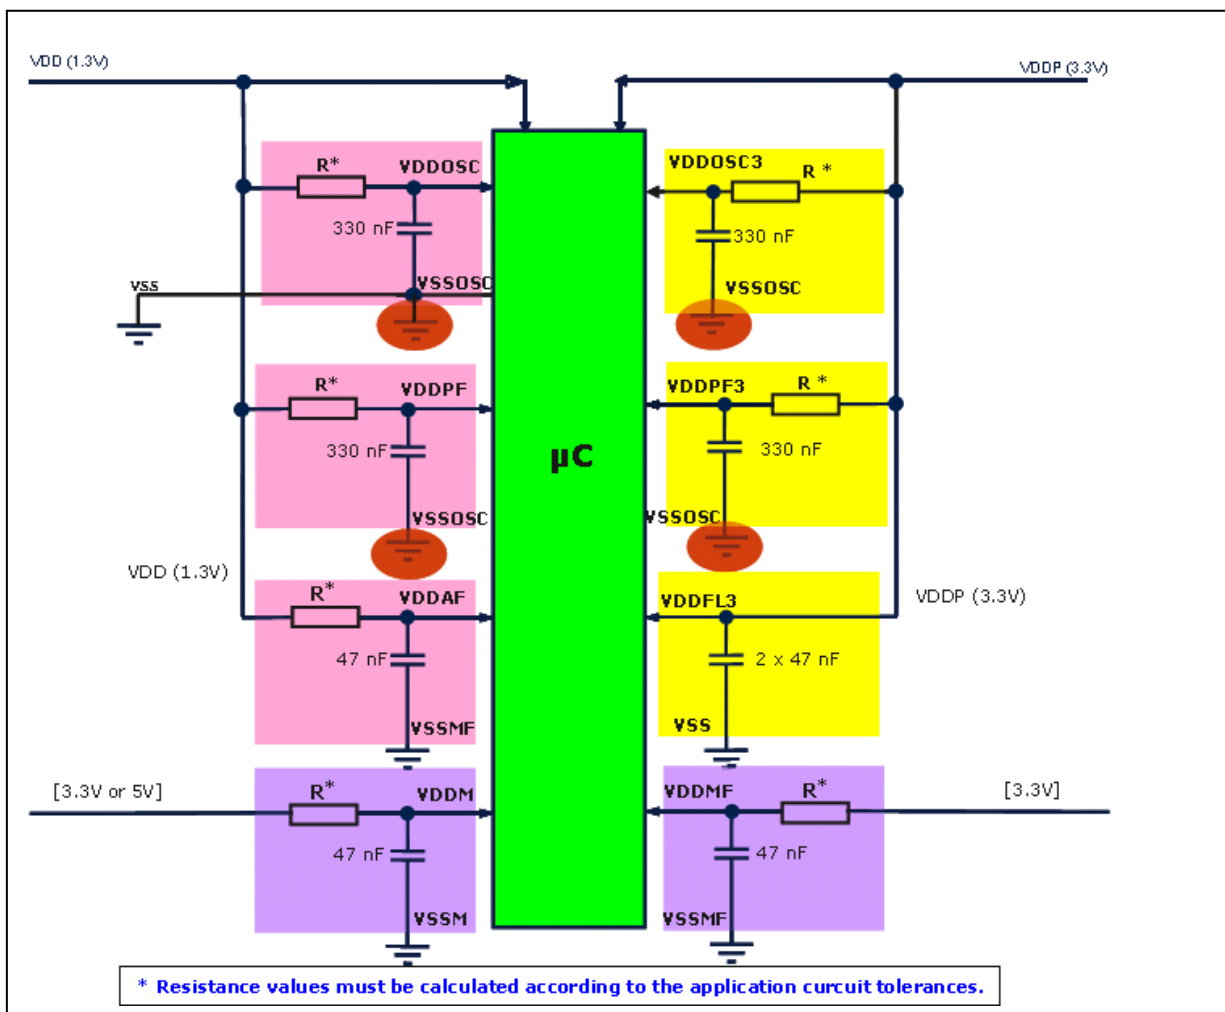

Figure 2 Filtering of VDDOSC, VDDOSC3, VDDFL3, VDDM, VDDMF, VDDAF, VDDPF, VDDPF3 supply pins
- RC Filters can be inserted in the supply paths at the regulator output and at the branchings to other module supply pins like VDDOSC, VDDOSC3, VDDFL3, VDDM, VDDMF, VDDAF, VDDPF and VDDPF3. Using inductance or ferrite beads (5 – 10 μH) instead of the resistors can improve the EME behaviour of the circuit and reduce the radiation up to ~10dB μV on the related supply net. (See Figure 2).